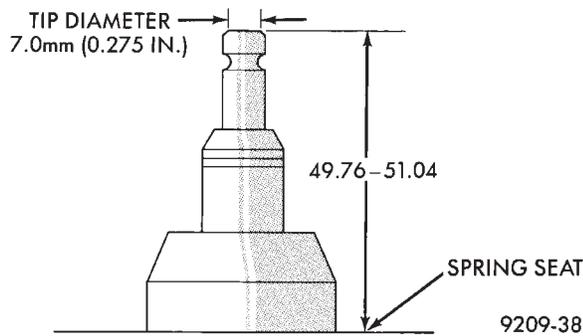

Fig. 25 Valve Tip to Valve Spring Seat Dimensions
(7) Check valve tip to valve spring seat dimensions after grinding to seats or faces. Grind valve tip to give 49.76 to 51.04mm (1.960 to 2.009 inch) over valve spring seat when installed in the head (Fig. 25). The valve tip diameter should be no less than 7.0mm (0.275 inch), if necessary, the tip chamfer should be reground to prevent seal damage when the valve is installed.